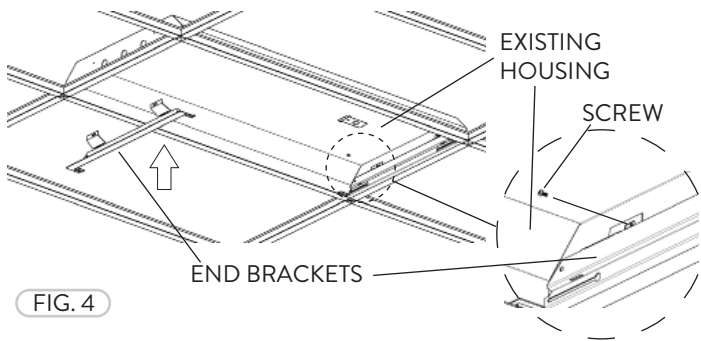

FIG. 4
- 2 Install the LED panel End Brackets to each end of the Existing Housing and between the T-Grids with Screws (Fig. 4).